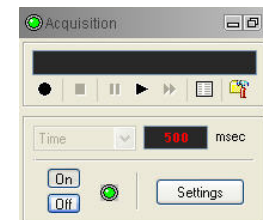

Figure 4-2 Acquisition panel
5. In the **Acquisition** panel (Figure 4-2) select the sampling mode (depth or time). Click on **Settings** and specify the corresponding sampling rate. Switch on the sampling (click the **ON** button).
6. Press the **Record** button in the **Acquisition** panel (Figure 4-2), specify a file name and start the logging.